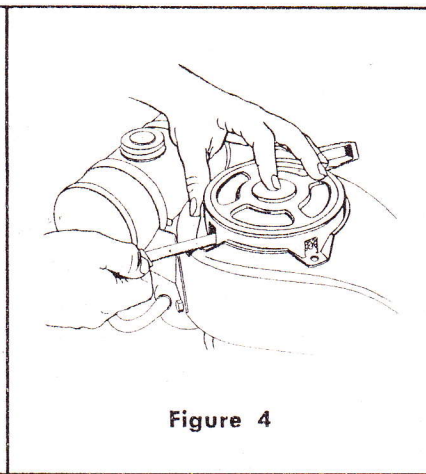

Figure 4
B. By measuring equal distance from the starter screen to the recoil housing at each of the four mounting holes in the recoil starter (Fig. 4).